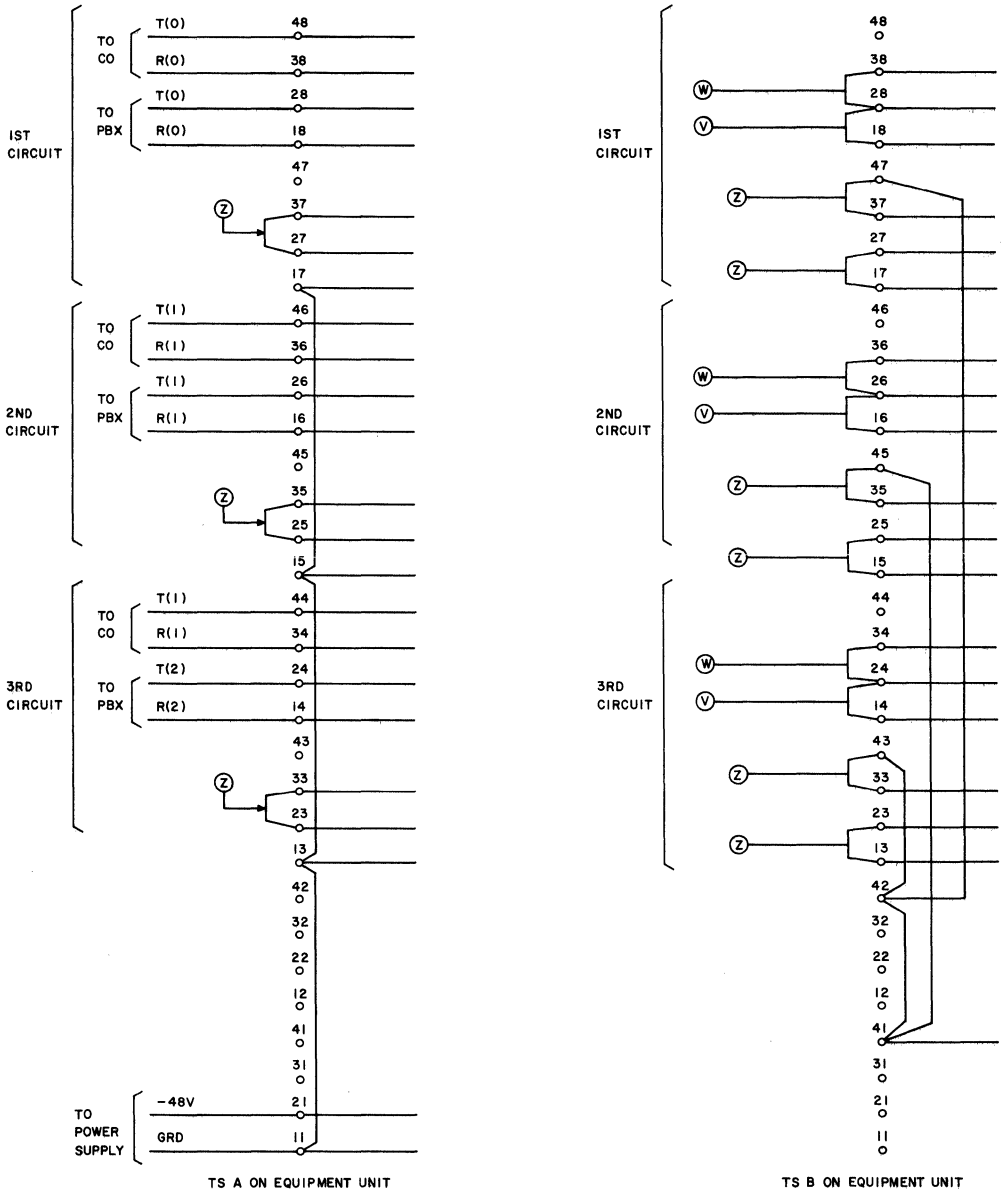

Fig. 6—Voice Connecting Arrangement TSPXY and TSPZ1—Connections
- 1.002** This addendum is issued to correct Table C and Fig. 6 with respect to option X to agree with SD-1E295-01, Issue 2.
- 2.002** On page 14, replace Fig. 6.